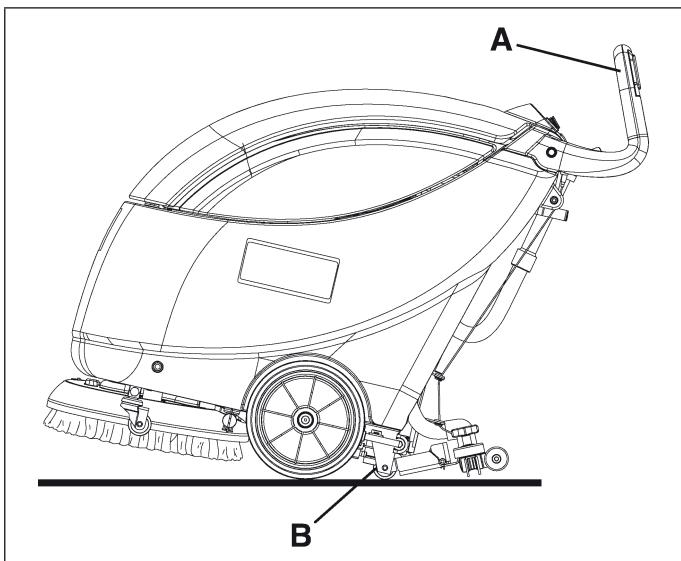

Figure 11
- Grasp the handlebar (A, Fig. 11) and slightly lower it until the rear wheel (B) comes into contact with the floor, as shown in the figure. While holding the machine in this position, push it to the transport/parking area.